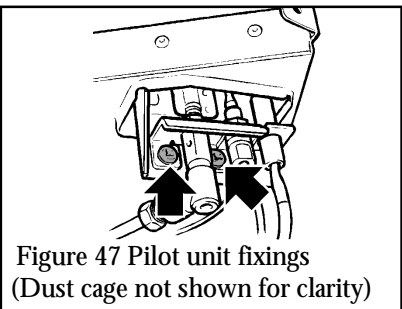

Figure 47 Pilot unit fixings
- Remove the first screw securing the dust cage to the pilot unit & burner (see figure. 47). Carefully remove the dust cage and place aside.